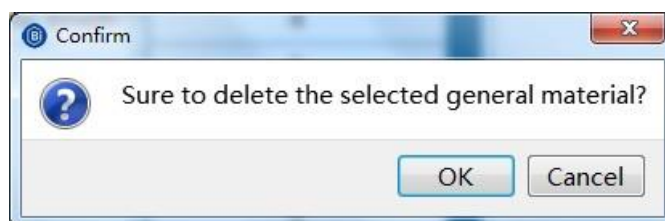

Figure. 8.4.8 Confirm deletion
- (1) The validity period shall not exceed the expiry date;
- (2) The maximum volume of substrate C shall not exceed 250 ml.
- Click **Delete general material**, and the system will prompt the confirmation message for the deletion, as shown in Figure 8.4.8, click **OK** to delete the general material.